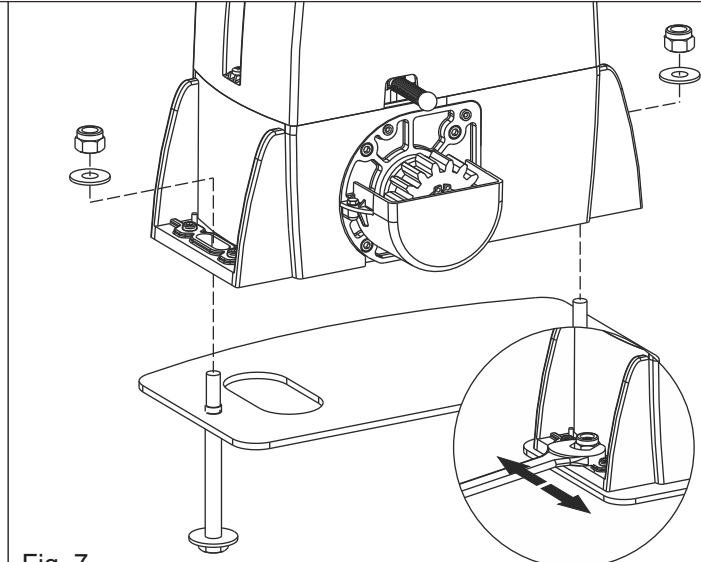

Fig. 7
**4.2.** Fix the gear motor to the foundation plate using the 2 included nuts, adjusting the side position (Fig. 7) so to respect the shown quota in Fig. 4